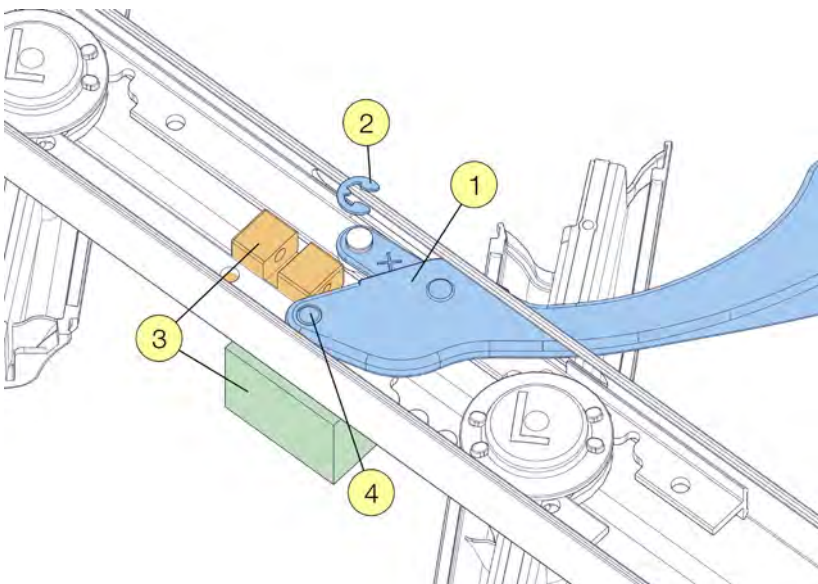

Fig. 23.4.1.4.1-1.2
5. Remove the plastic handle and link assembly from the gallery through the handle slot. *Refer to Figure 23.4.1.4.1-1.1.*